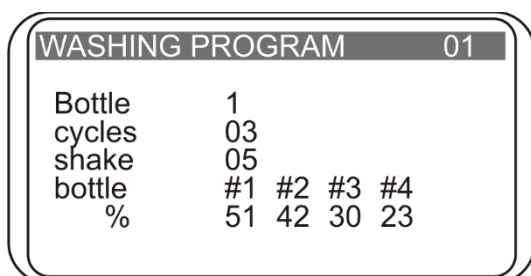

Fig. 8. Display during operation with connected 4-CHW Logger
- 4.17. If 4-channel washing solution weight logger is connected to the unit, then during operation, display shows program number, currently used bottle number, the number of cycles left and the remaining volume percentage of liquid in the bottles (fig. 8). For the waste bottle, filled liquid amount is displayed accordingly based on 2-litre bottle volume percentage.